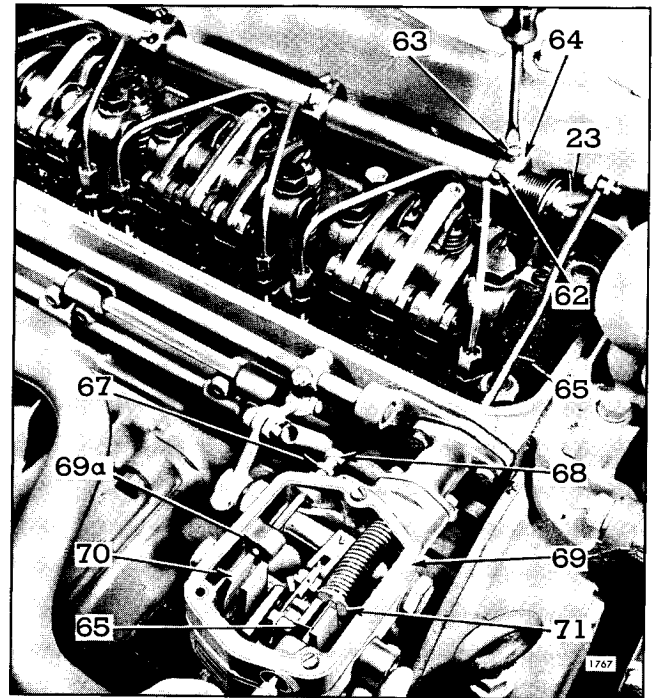

Fig. 2 - Positioning No. 1 Injector Rack
1. Turn outer adjusting screw (63), Fig. 2, in until a slight movement of the injector control tube lever (23) is observed. Tighten inner adjusting screw (62).